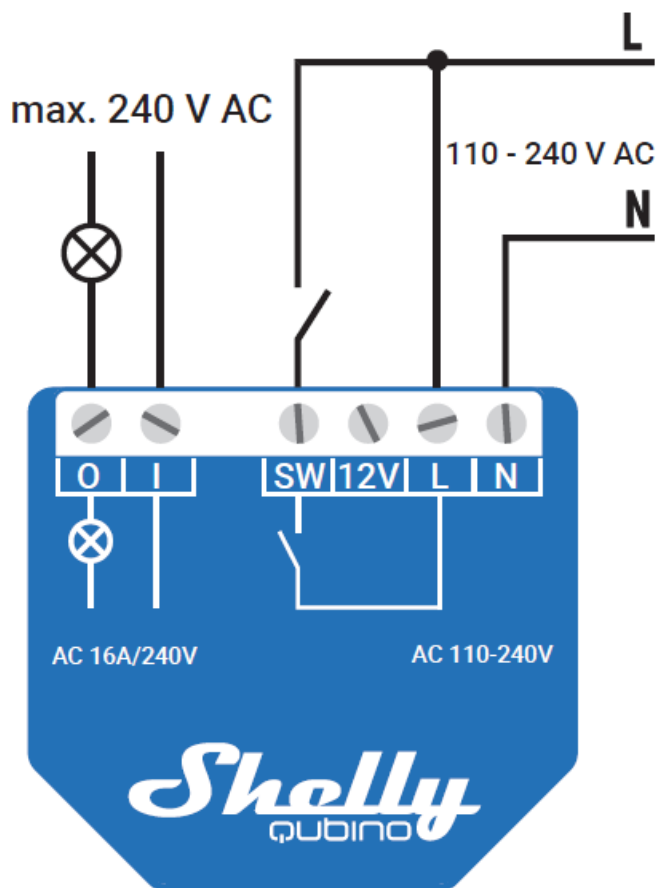

Fig. 1
3. If using an AC power supply, connect the Live wire to the L terminal and the Neutral wire to N terminal as shown in Fig. 1.
- If you are using an AC power supply for the Device, connect the Live wire to the Device L terminal, and the Neutral wire to the N terminal as shown on Fig. 1. Connect a switch or a push-button to the Device SW terminal and the Live wire.